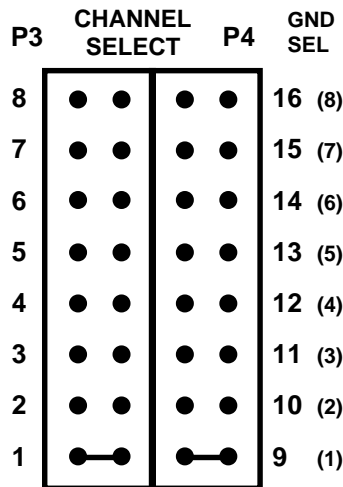

Fig. 1-2 — Channel Select Jumpers, 8-Channel A/D Boards
**For 1-8 Input Channels (single-ended or differential on A/D board):** When you connect the TMX32 to an A/D converter board with eight or fewer analog input channels, P3 is used to set the desired input channel, and P4 is used to set the corresponding ground for that channel. For example, if you place the jumper across the pins for channel 1 on P3 as shown in Figure 1-2, you should place the P4 jumper across the pins labeled “9 (1)” on the board, as shown. You must install both jumpers — the selected channel jumper and the corresponding ground jumper — regardless of whether you are operating in the single-ended or differential mode.